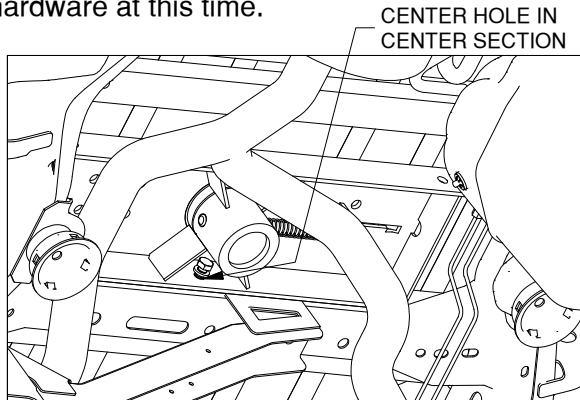

Figure C5: View looking up under truck bed from in front of the axle towards the rear of the truck. (Axle not shown)
5. **Attach the rear cross member.** Slide the rear cross member forward until it contacts the center section. Line the holes in the rear cross member up with the slots in the center. A pry bar or screwdriver may be used to help position the cross member. Thread a 1/2" x 1-1/2" long bolt into the center rear hole in the center section into the center threaded hole in the rear cross member, adding a lock washer to the connection, as shown in Figure C5. Hand tighten hardware at this time.